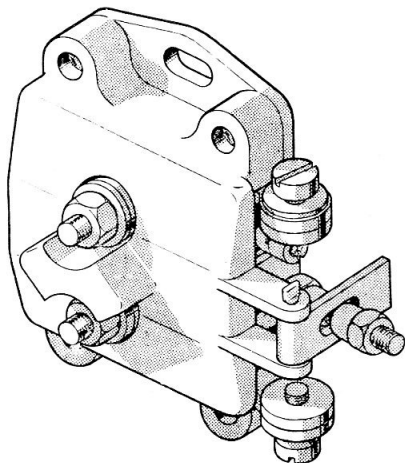

Fig. 1. Limit switch, Type LS56I, Mk. 6
2. This switch (*fig. 1 and 2*) is a double-pole, snap-action, change-over type. The mechanism is contained in a black plastic case mounted on a duralumin base plate, and provided with two mounting slots.